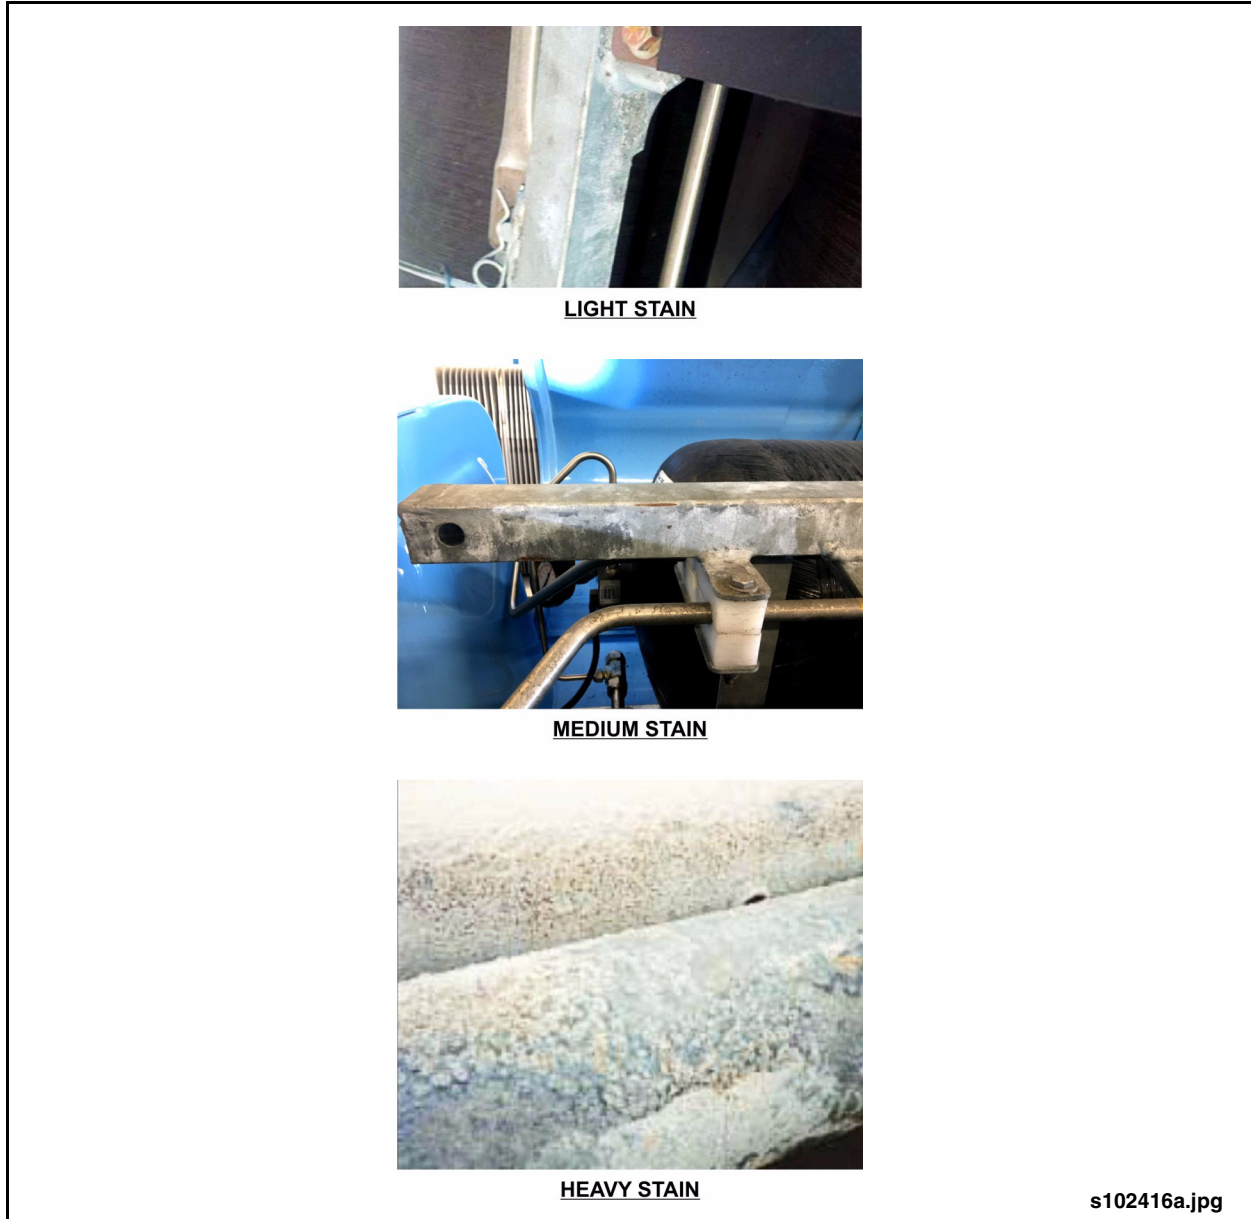

Fig. 1-5: Wet Storage Stains
4. Inspect along all sides of the galvanized steel structure for any evidence of corrosion. See "Fig. 1-5: Wet Storage Stains."